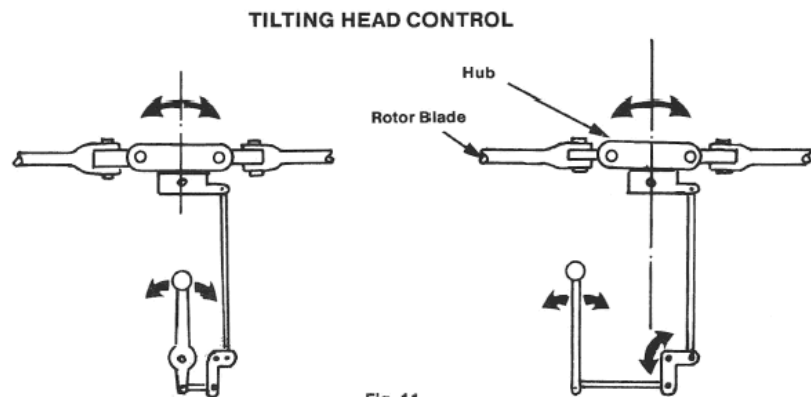

Fig. 11
**Juan de la Cierva** began his experiments with the rotor providing lateral control, but he abandoned it in favor of the airplane-type control surfaces. All the Autogiros delivered in the *United States* from 1931 through 1934 had airplane type control surfaces. Soon Cierva's Autogiros were equipped with lateral control provided by the rotor and at the same time, the rotor also controlled the Autogiro longitudinally. All this was accomplished with a simple principle; tilting the rotating axis of the rotor in the direction that control was wanted. The system was ingeniously simple. The control stick moved the rotor hub directly (fig. 11, at left), through only one or two belcranks to provide the mechanical advantage so that the loads in the control stick were only a few pounds (fig. 12, at right). The rotating part of the rotor system weighed about three-hundred pounds. With this mass spinning at 200 or more rpm, a powerful gyroscope was attached to the hand of the pilot. Any out-of-balance of the rotor was fed back to the pilot's hand via the control stick.